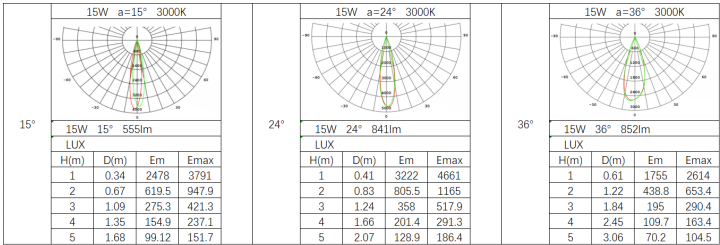

Figure 2- CCT Light - Light Distribution
Step 2: Fix the outer ring (embedded part) on the ceiling with self tapping screws to prevent the outer ring from loosening, cracking, and falling off after painting (see Figure 2 below);